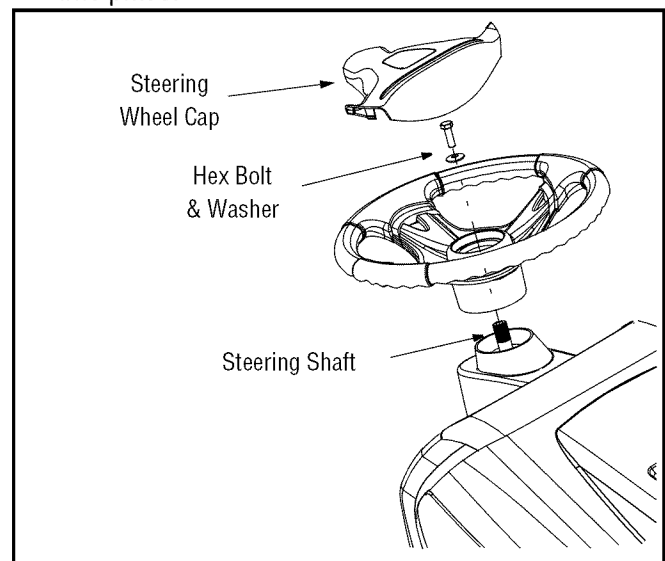

Figure 1
- Place the washer (with the cupped side down) over the steering shaft and secure with the hex bolt. See Figure 1.